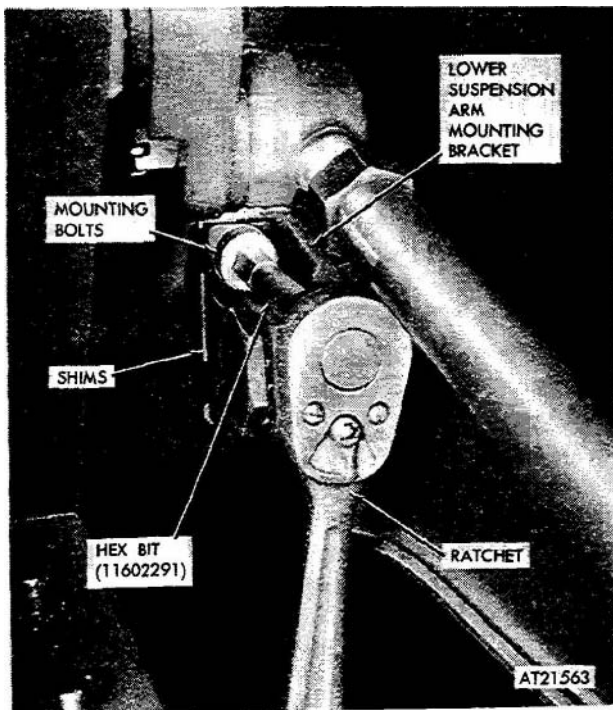

Figure 3-190. Suspension shimming procedure.
(1) Adjust camber to 0 degree, 0 minute to 1/2 degree by performing (2) through (5) below.
(2) To adjust camber, jack up the vehicle hull to relieve tension on the suspension arms. Using hex bit (11602291), loosen four lower suspension arm mounting bracket bolts (fig. 3-190). Add or remove equal thickness shims under both front and rear mounting brackets.
(3) Using a suitable pound-foot torque wrench, tighten suspension arm mounting bracket bolts to 92 to 110 lbs-ft. torque. Lower jacks, bounce vehicle to settle suspension, and recheck camber.
*Note: Steps (4) and (5) below provide an alternate method for adjusting camber.*
(4) Level vehicle hull using suitable jacks, With suspension arms in full rebound position and power train in two-wheel drive position, check camber.
(5) Adjust camber to + 1/2 degree to +1 degree, as indicated in (2) and (3) above.
(1) Adjust front tractor wheels caster to +4 degrees, 0 minutes to +3 degrees, 0 minutes by performing (2) through (5) below.
(2) To adjust caster, jack up the tractor hull to relieve tension on the suspension arms. Using hex bit (11602291), loosen four lower suspension arm mounting bracket bolts (fig. 3-190). Add or remove shims from under either front or rear suspension arm mounting brackets.
(4) Adjust carrier wheels caster to -4 degrees, 0 minute to -3 degrees, 0 minutes by performing (5) through (8) below.
(5) Adjustment of the caster is accomplished by loosening the four lower suspension arm mounting bracket bolts (fig 3-190). Add or remove shim from under either front or rear mounting bracket.
(6) Using a suitable foot-pound torque wrench, tighten suspension arm mounting bracket bolts to 92 to 110 lbs-ft. torque. Recheck caster.
(7) Align chalk marks on steering shaft with mark on torque tube. Connect steering shaft universal joint. (Refer to TM 9-2320-242-20.)
(8) Remove jacks.